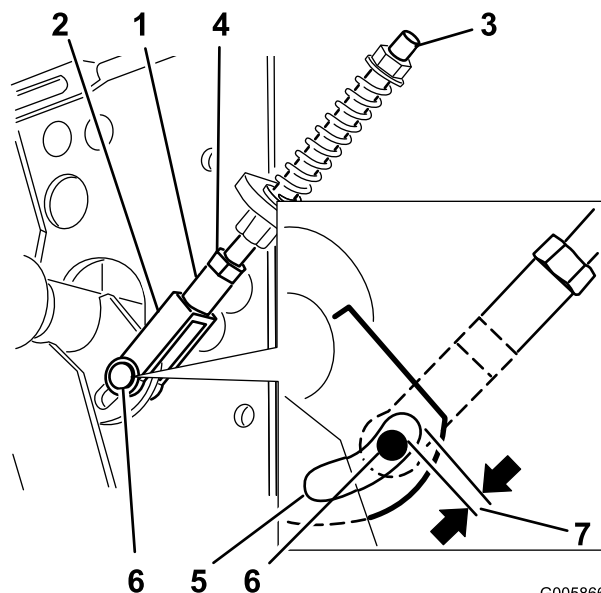

Figure 47
3. Loosen the nut against the yoke (Figure 47).
4. Adjust the length of the neutral stud and yoke assembly so the clevis pin does not contact the back of the slot in the control arm bracket (Figure 47).
5. Tighten the nut against the yoke (Figure 47).